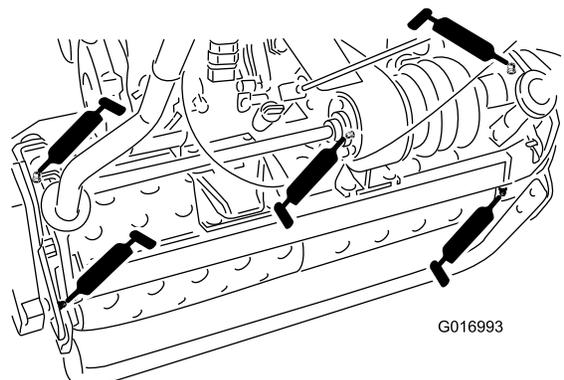

Figure 18
- 2 on the drum axles (Figure 18)
- 3 on the differential (Figure 18)